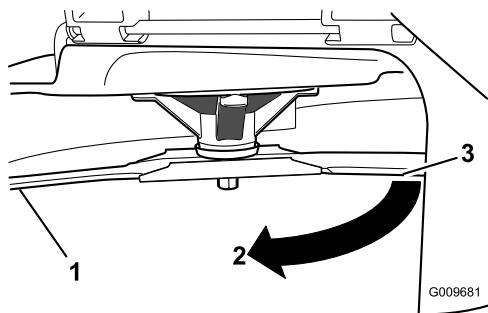

Figure 47
- Measured distance between blade and the surface (A)
- Rotate the same blade 180 degrees so that the opposing cutting edge is now in the same position (Figure 47).